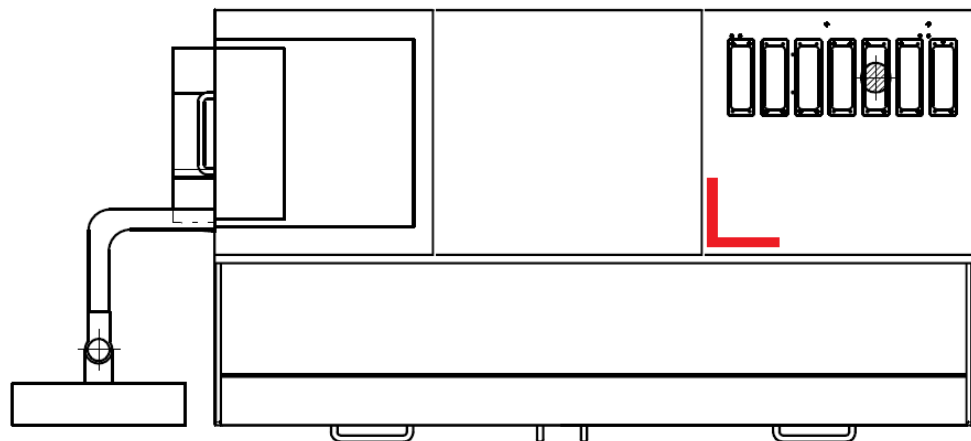

Fig. 100. Correct placement of the precision spirit level
- > Set the spirit level down correctly: Place the precision spirit level only on the surfaces shown in Fig. 100. The lengthwise and crosswise measuring surfaces for the precision spirit level must be clean and free of burrs. The precision spirit level must not be placed on the face of the front panel.